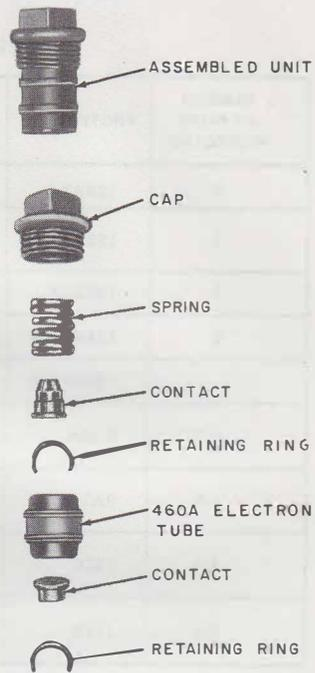

Fig. 4—6B1A Protector Unit
3.04 The **123B1A protector** (Fig. 3) provides protection for one pair of wires and is recommended for use where lightning activity makes frequent replacement of protector blocks necessary. It consists of a nonconductive base containing three binding posts and two 6B1A gas tube protector units (Fig. 4) in parallel with two 2B2A protector units. The 6B1A protector units are not grounded permanently by lightning surges but may be damaged by power currents. Therefore, carbon protector backup is provided to assure fail-safe protection.